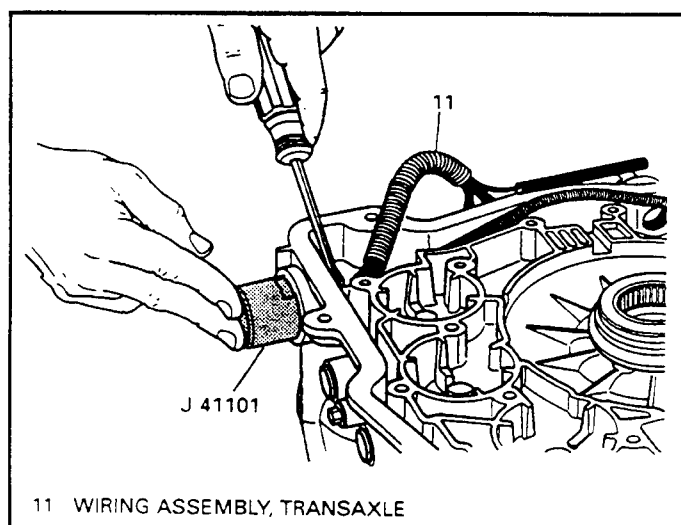

Figure 67
64. Remove the pass thru case connector using the tool J-41101 as shown in Figure 67. Push the removal tool onto the case connector from the outside of the transaxle case to compress case connectors retaining tabs. With the retaining tabs compressed, use a screwdriver to remove the case connector through the inside of the transaxle case.